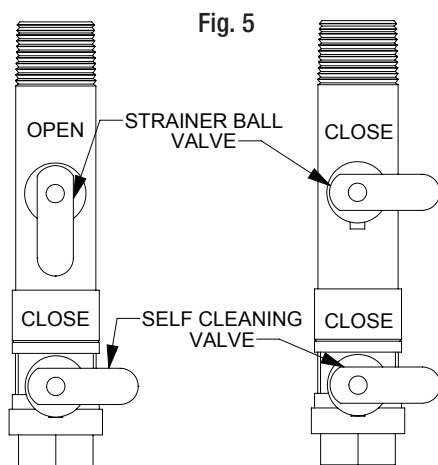

Fig. 5
- Open the strainer ball valve (see Fig. 5).
- Set the “time off” and “time on” knobs on front of the electronic automatic drain assembly (B) (see Timer Settings section).